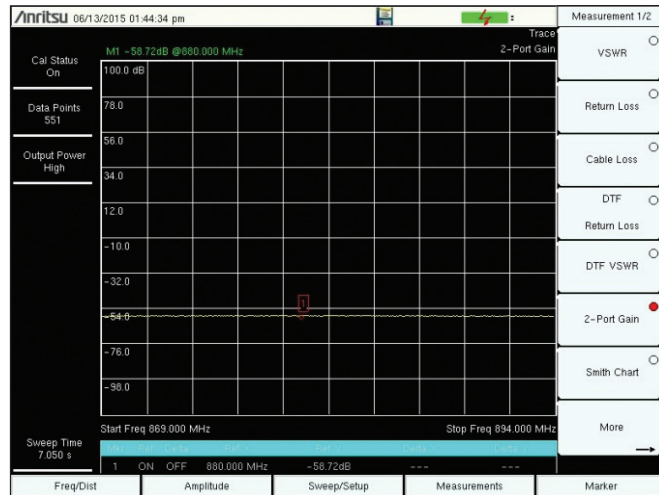

Figure 9: Measurement of Attenuators
- Measure combined A_1 and A_2 attenuation (Figure 9) and save the trace to internal memory. Label the saved file appropriately